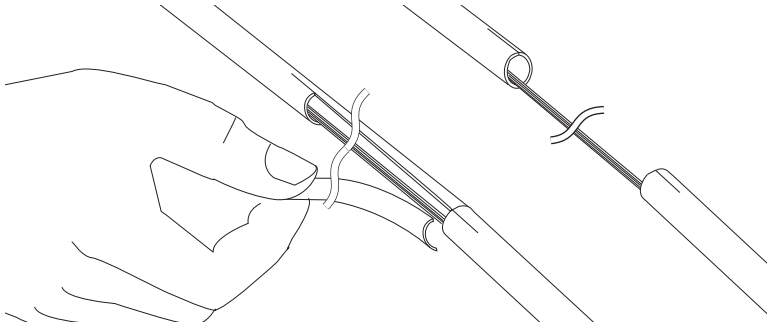

Figure 19
- b. Carefully pull the scored tube apart. Remove both sections of the tube at the other ring cut (Figure 19).